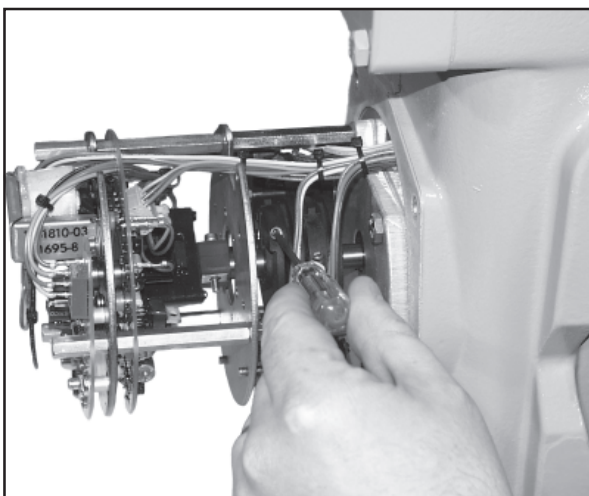

Figure 2
2. Use the electric Handswitch to drive the control shaft so that the FL switch cam screw is accessible. Using a 7/64" hex wrench, loosen the screw so that the cam is just snug on the shaft. See Figure 2, below.